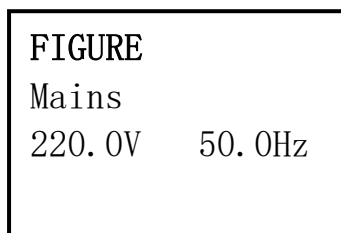

Fig.4: Main input info
- 5) Select and confirm the data info to be viewed in detail. It contains the details of the AC input /output , inverter, battery , BUS, parallel , temperature. See Fig 4 to 12 below.